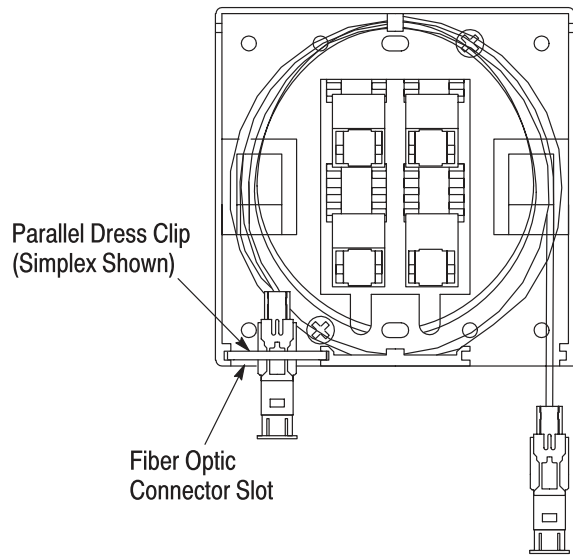

Figure 5
5. Install the jack housing or parallel dress clip onto the terminated jack. Then install the jack and housing or clip assembly into the appropriate fiber optic connector slot in the outlet base. If using the parallel dress clip, make sure that the open end faces the base. Refer to Figure 5.